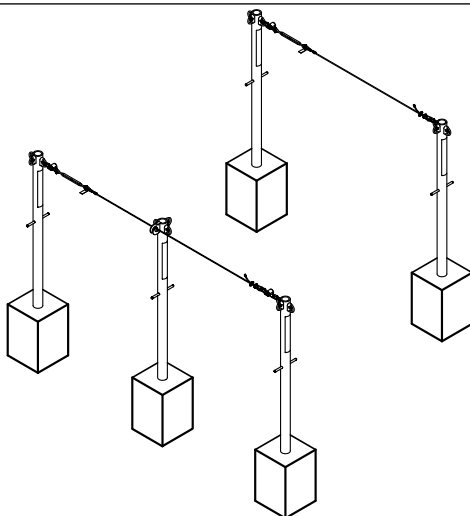

Figure 1 - SecuraSpan® Single Span Horizontal Lifeline
1.1 PURPOSE: SecuraSpan® Horizontal Lifeline systems (HLL) are designed to be used as an anchoring means for up to six users, with no more than two users per span (see section 3.2 C). The SecuraSpan system may be used in many situations where a combination of horizontal mobility and fall protection is needed. Figures 1 and 2 show two configurations of the SecuraSpan HLL systems.
3.2 SYSTEM INSTALLATION: Figure 1 shows a typical single span SecuraSpan HLL system installation. Figure 2 shows a typical multiple span system installation. SecuraSpan HLL systems must be installed to meet the clearance requirements specified in Figures 9 and 11.
- A. **INSTALLATION OF PRECAST STEEL SLEEVES:** Sleeves cast into the concrete columns serve as the connection for the SecuraSpan pour-in-place stanchion. (See Figures 1 and 2.) Cast the steel sleeve into freshly poured concrete. Locate the sleeve in the center of the column and confirm that is plumb.